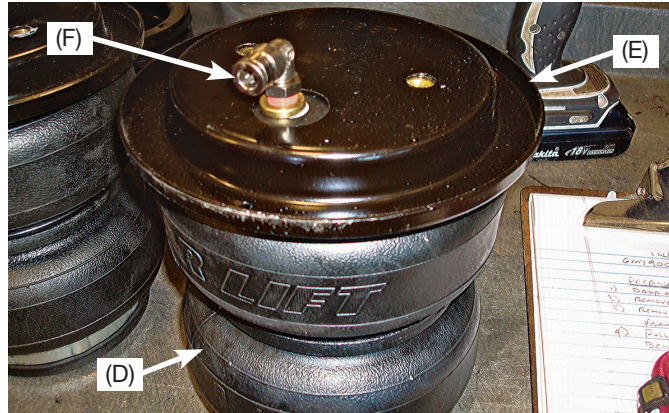

fig. 12
1. Set a roll plate (E) over the top of the air spring (D) (fig. 12).